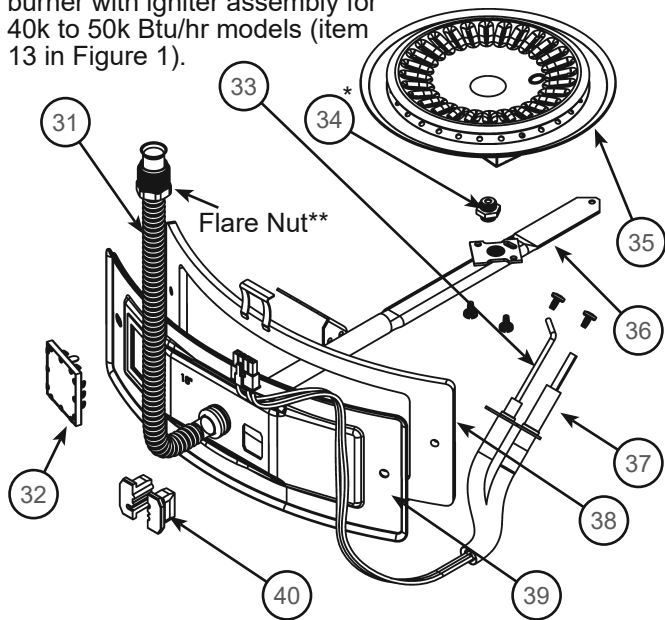
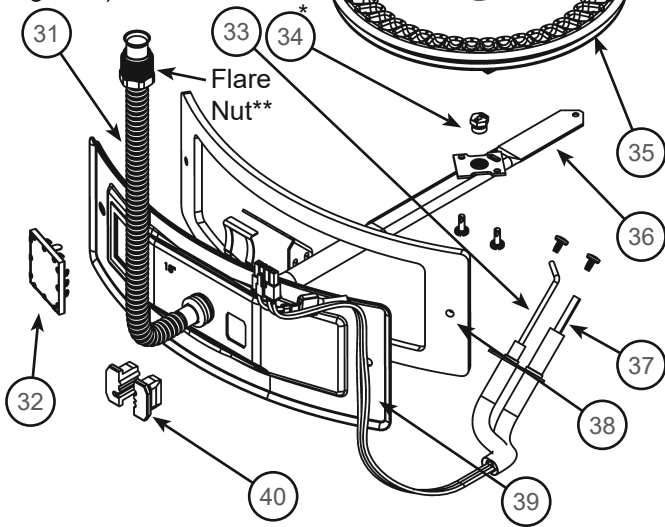

Figure 51.
Figure 52.
- 13 Manifold Door Assembly (behind outer door) (see Figure 3 and Figure 4) (see also Figure 51 and Figure 52)
- 31 Flexible Manifold Tube (see Figure 3 and Figure 4) (see also Figure 51 and Figure 52)
- 33 Flame Sensor Rod (see Figure 3 and Figure 4) (see also Figure 51 and Figure 52)
- 34 Gas Orifice (see Figure 3 and Figure 4) (see also Figure 51 and Figure 52)
- 35 Sheet Metal Burner (see Figure 3 and Figure 4) (see also Figure 51 and Figure 52)
- 36 Gas Manifold (see Figure 3 and Figure 4) (see also Figure 51 and Figure 52)
- 37 Hot-Surface Igniter (see Figure 3 and Figure 4) (see also Figure 51 and Figure 52)
- 38 Manifold Door Gasket (see Figure 3 and Figure 4) (see also Figure 51 and Figure 52)
- 39 Manifold Door (see Figure 3 and Figure 4) (see also Figure 51 and Figure 52)
- 40 Two Piece Grommet With Clip (see Figure 3 and Figure 4) (see also Figure 51 and Figure 52)